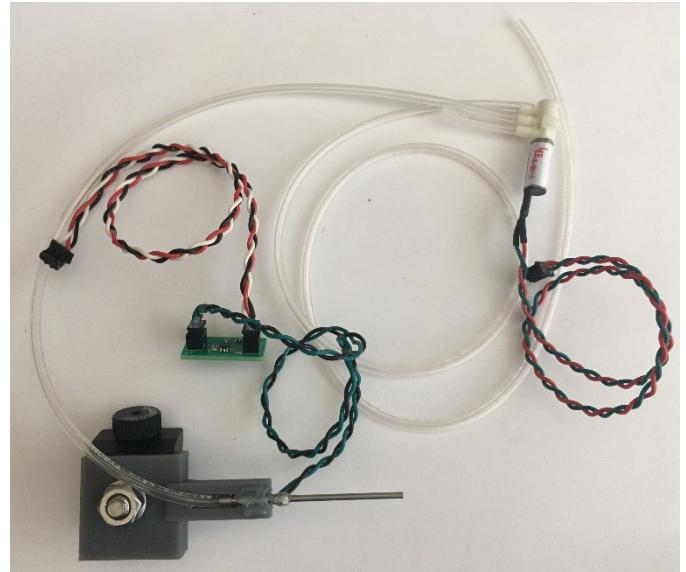

Figure 36 Completed lick spout, capacitive lick sensor, and solenoid valve, all connected. (male Luer)
- To see the tubing connected to the solenoid valve, see Figure 36.
- See Figure 36 for the finished lick spout, capacitive lick sensor, and solenoid valve.